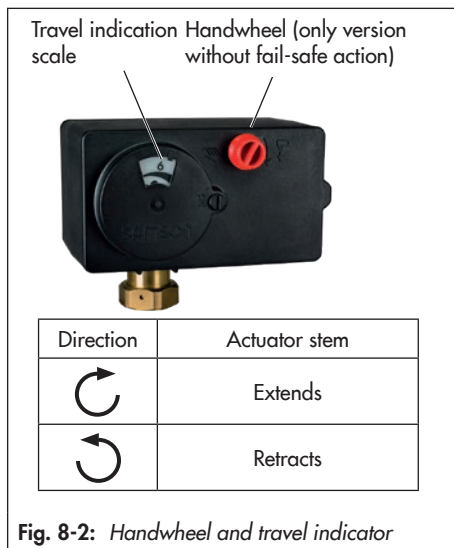

Fig. 8-2: Handwheel and travel indicator
- Turn clockwise: the actuator stem extends (see Fig. 8-2).
- Turn counterclockwise: the actuator stem retracts (see Fig. 8-2).
To manually move the actuator stem one millimeter, the handwheel must be turned approx. 4 turns (see Fig. 8-2):